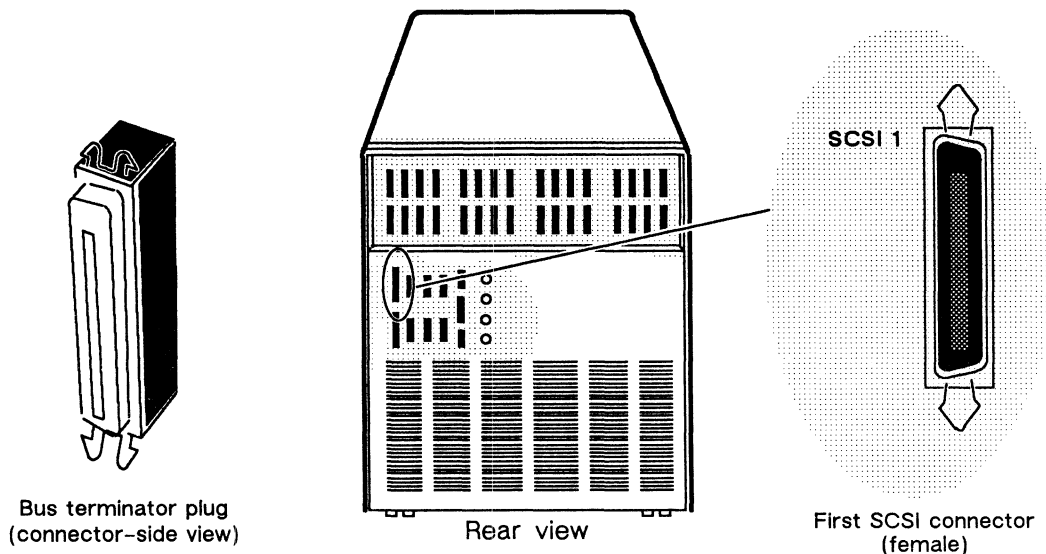

Figure 2-11 SCSI 1 Port and Terminator Plug
1. Locate the CHAMP terminator plug, Data General number 005033334, and the SCSI 1 rear panel connector shown in Figure 2-11.